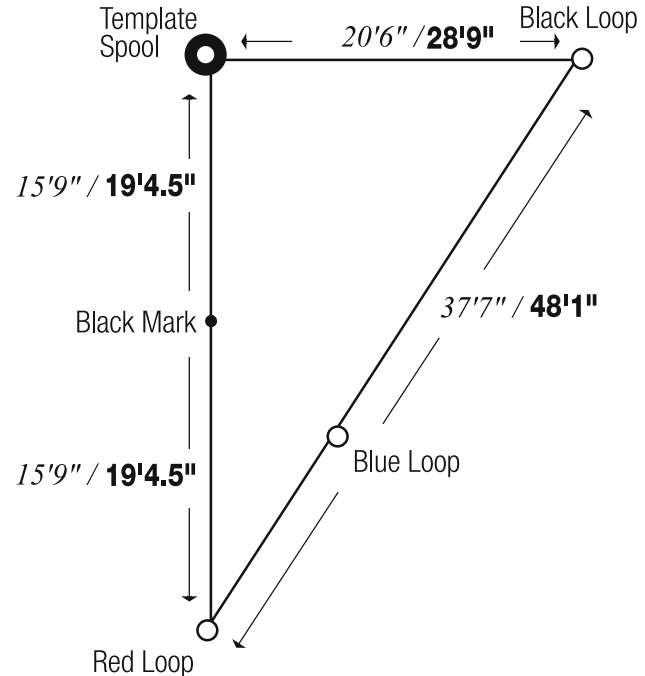

fig.1
3. Unwind the line from the spool to create the staking template. Connect the loop at the end of the line to the staked spool. Pull the RED and BLACK loops away from the spool to form a right triangle. See fig.1